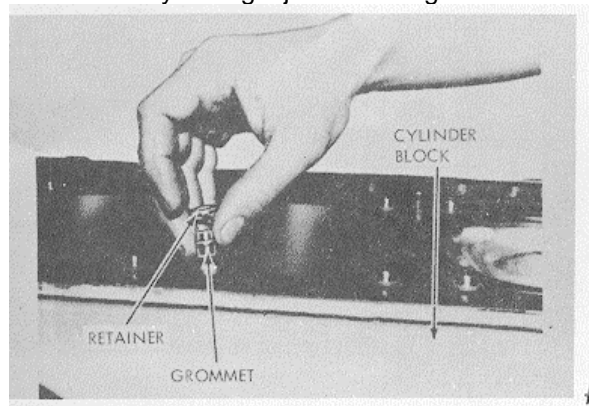

Figure 3-130. Installing grommets and retainers.
(1) Cylinder head should have valve guides, valves, valve springs, injector sleeves and plugs in place as described in Cylinder Head Group.
(2) Clean the mating surfaces of cylinder block and cylinder head; be sure cylinder liner walls are clean and well lubricated with clean lubricating oil.
(3) Be sure all capscrew holes are free of dirt shavings, water, oil, etc.
(4) Place new grommets and new retainers in water passage holes in block, figure 3-130.